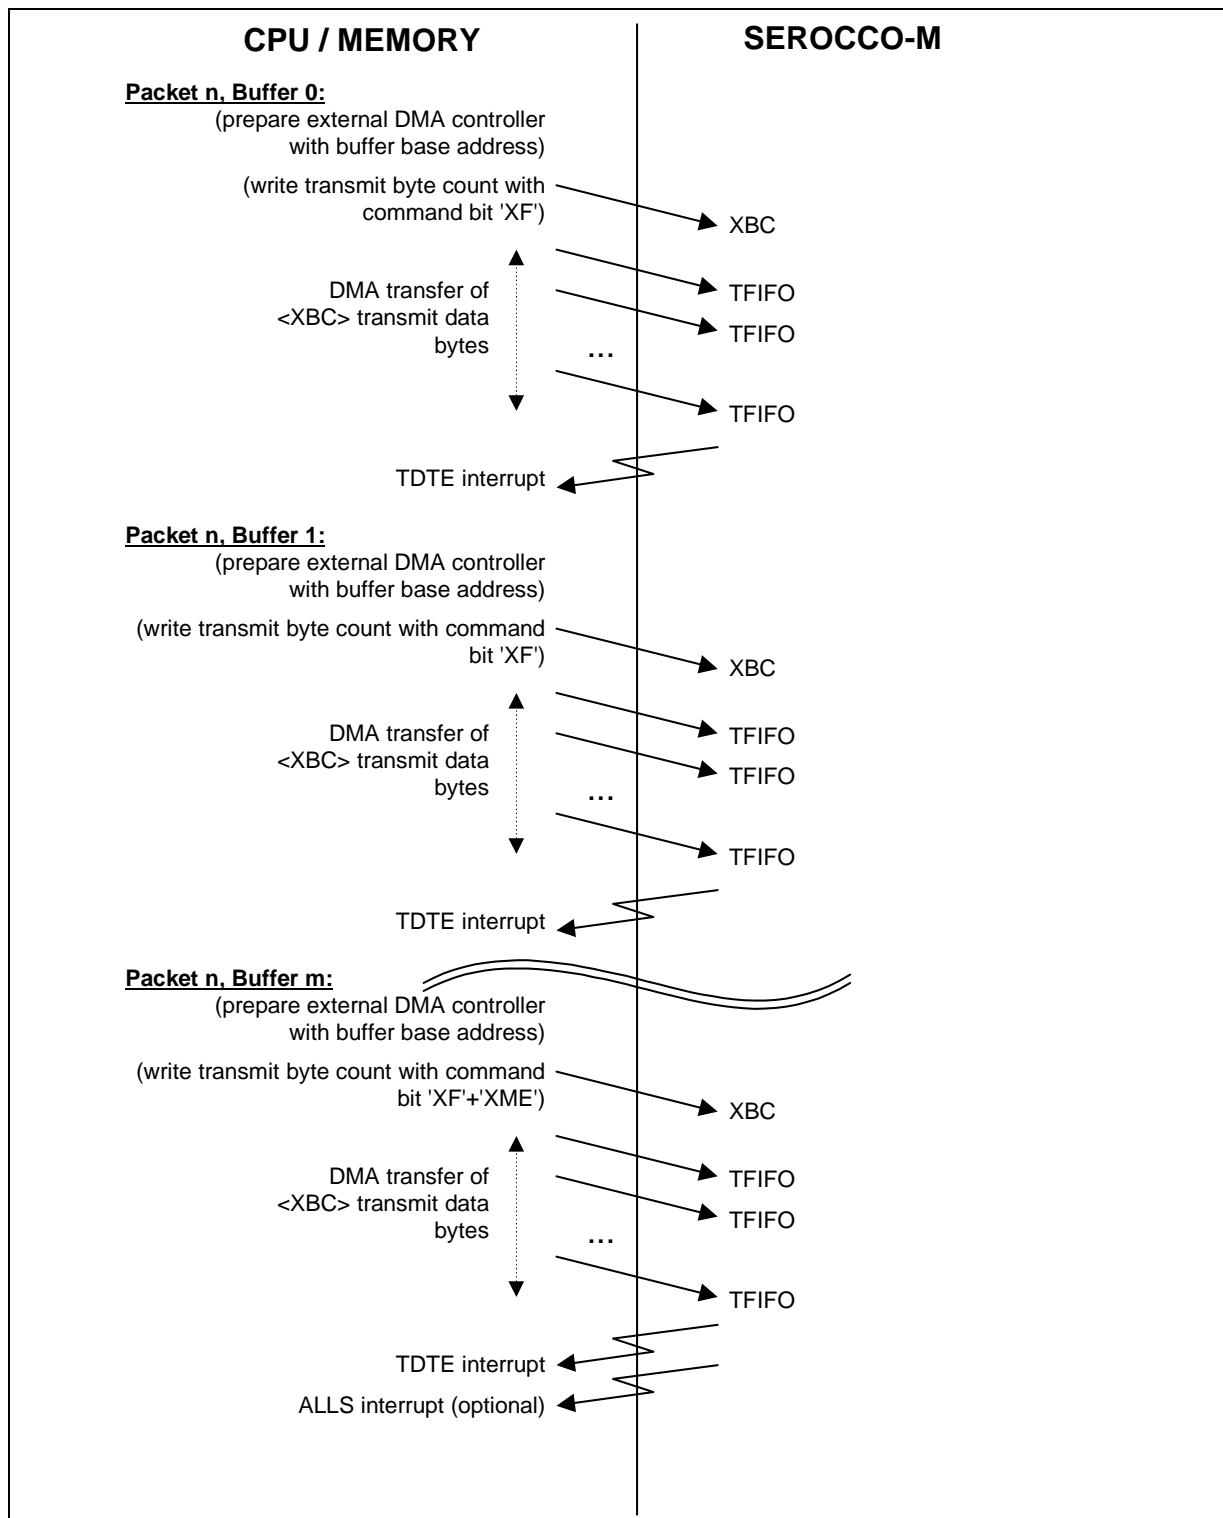

Figure 59 Fragmented DMA Transmission (Multiple Buffers per Packet)
- If a transmit packet is distributed over more than one transmit buffer in memory, the 'XF' command (without setting the 'XME' bit) forces SEROCCO-M to request data transfers from the external DMA controller from this buffer. A Transmit DMA Transfer End (TDTE) interrupt is generated whenever a block of <XBC> bytes is completely transferred. For the last buffer, containing the end of the transmit packet, the 'XF' command is issued together with bit 'XME' set (refer to Figure 59).